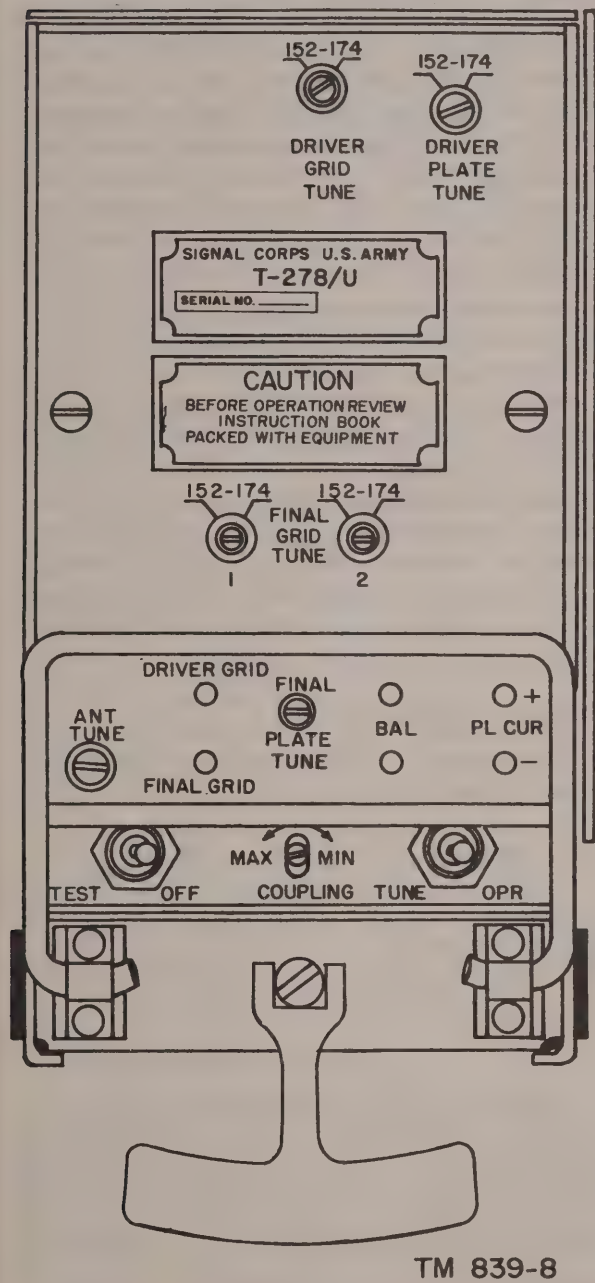

Figure 23. Radio transmitter T-278/U, front panel.
31. Radio Transmitter T-278/U, Controls (fig. 23)